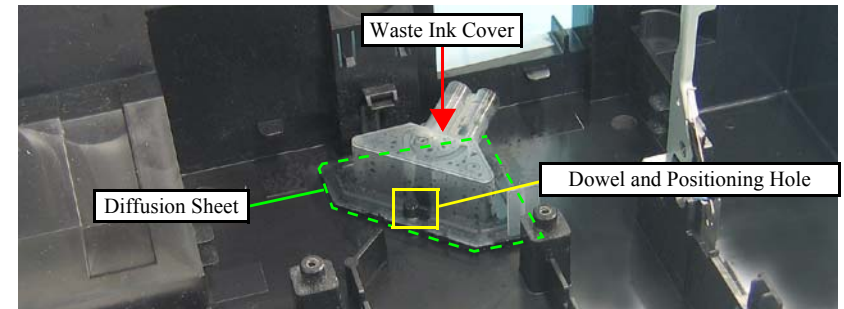

Figure 4-112. Removing the Waste Ink Cover and Diffusion Sheet
- When installing the Waste Ink Cover, be sure to align the dowel (x1) of the Base Frame with the positioning hole (x1) of the Waste Ink Cover as shown in Figure 4-112. Make sure to confirm the cover is properly secured on the Diffusion Sheet without any gap.